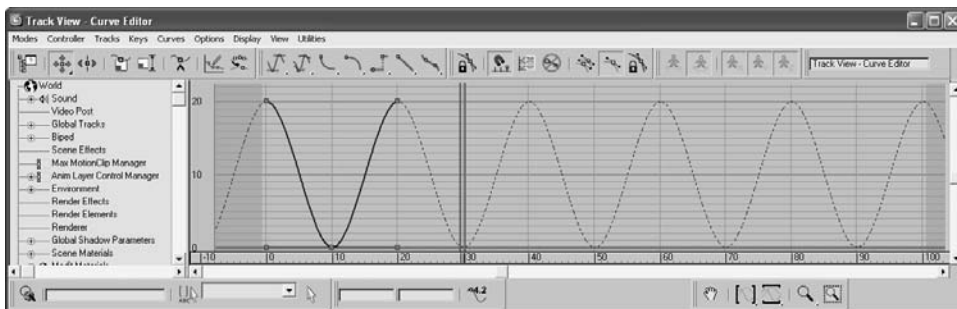

Figure 8.21
4. Once you set the curve to Loop, the Curve Editor displays your animation as shown in Figure 8.21. The out-of-range animation is shown in a dashed line. Scrub your animation in a viewport and see how the ball bounces up and down throughout the timeline range.